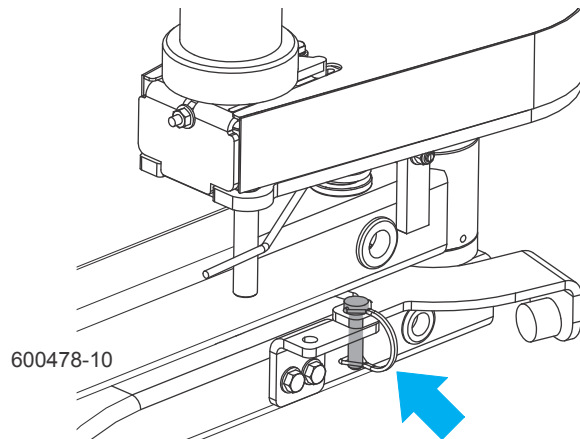

FIG. 4-1
**See Figure 4-1.** The debarker is equipped with a travel lock pin. Insert the lock pin to lock the debarker in place when towing the sawmill. Remove the lock pin to unlock the debarker while the debarking is required during sawing.
**Before operating the debarker,** make sure the lock pin is secured in its travel position. Turn the key switch to OFF (0) and remove the key. Pull the debarker out to relieve pressure on the lock pin. Remove the lock pin.
**Before towing the sawmill,** lock the debarker in the travel position. Turn the key switch to ACC (3) and use the debarker in/out switch to move the debarker all the way in. Turn the key to OFF (0) and remove the key. Push the debarker in until the travel position holes align. Insert the lock pin.
**To move the debarker out of the way during sawing,** turn the key switch to ACC (3) and use the debarker in/out switch to move the debarker all the way out.